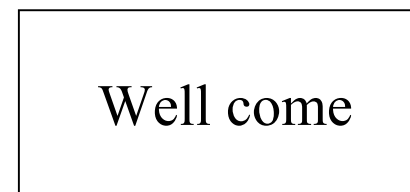

Figure 5
- ii. Turn on the power switch, enter standby state, the instrument displays both Chinese and English character. Screen shown in figure 5.